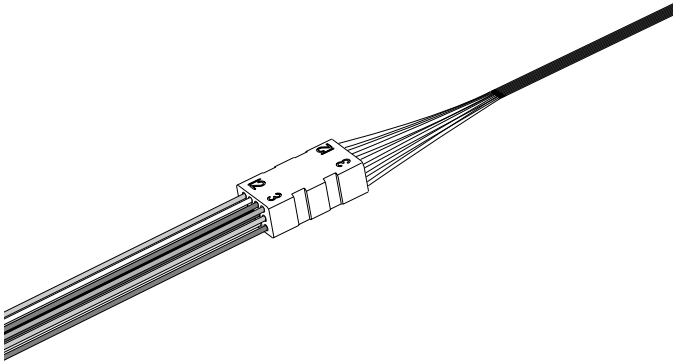

Figure 19
**8.1** With the printed side of the ribbon facing up, ensure the ribbon-to-900  $\mu\text{m}$  tube transition of the fan-out is as straight as possible (Figure 19).